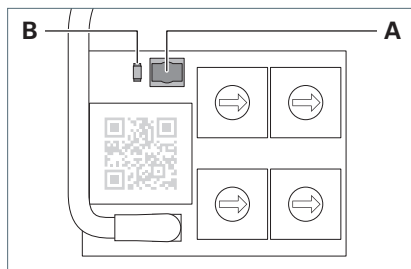

Fig. 10: Key and LED.
- Press the key **A** and keep it depressed for five seconds, see Fig. 10.